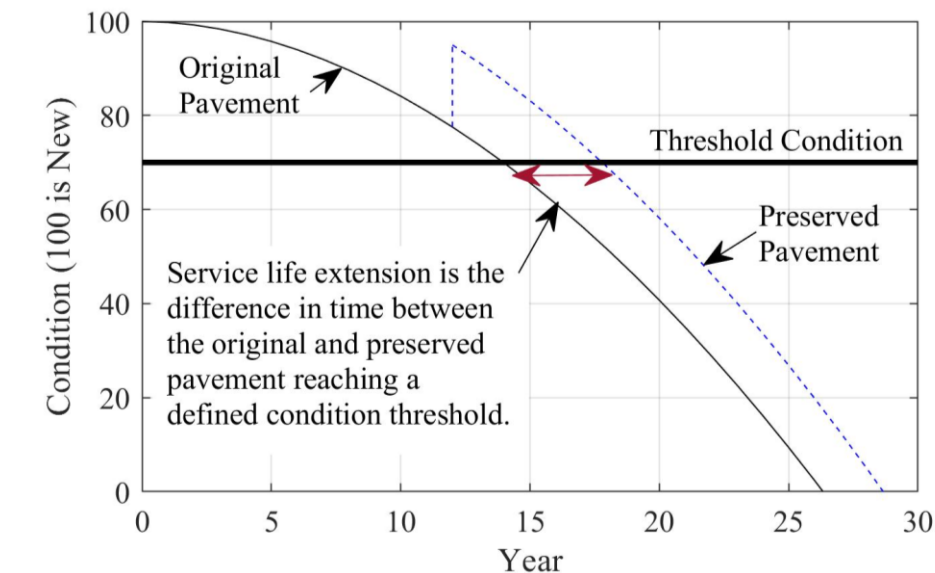

Figure 1. Illustration of Life Extension due to Preservation.
- **Improved pavement performance**—preservation activities extend the performance of the pavement and help to improve the overall condition of the network, as illustrated in Figure 1.